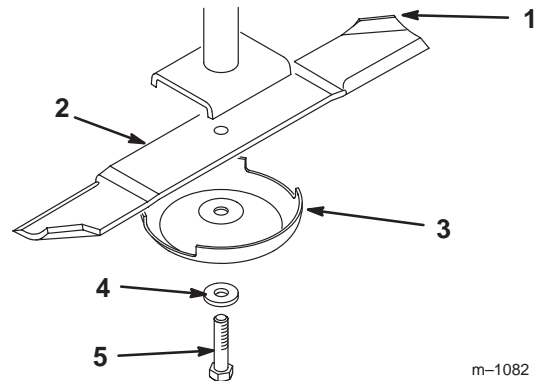

Figure 16
Hold the blade end using a rag or thickly-padded glove. Remove the blade bolt, washer, anti-scalp cup, and blade from the spindle shaft (Fig. 16).
Note: If the blade stays in a horizontal position, the blade is balanced and can be used. If the blade is not balanced, file some metal off the end of the sail area only (Fig. 16). Repeat this procedure until the blade is balanced.
1. Install the blade onto the spindle shaft (Fig. 16).
2. Install the lock washer and blade bolt (Fig. 16). Torque the blade bolt to 85–110 ft-lb (115–140 N•m).